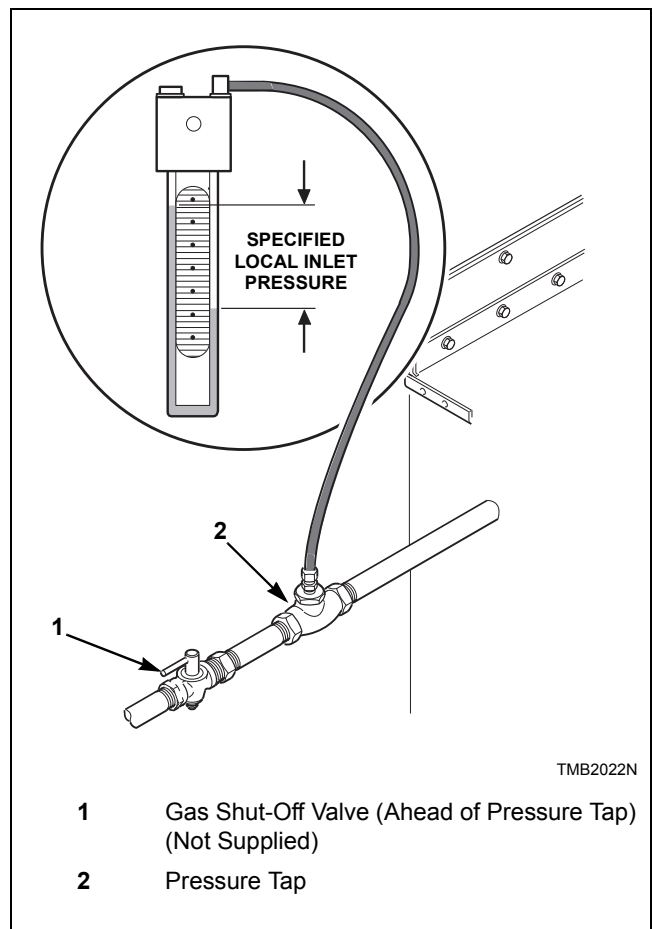

Figure 2
1. Disconnect electrical power from tumble dryer. Close gas shut-off valve to tumble dryer. Refer to *Figure 2*.